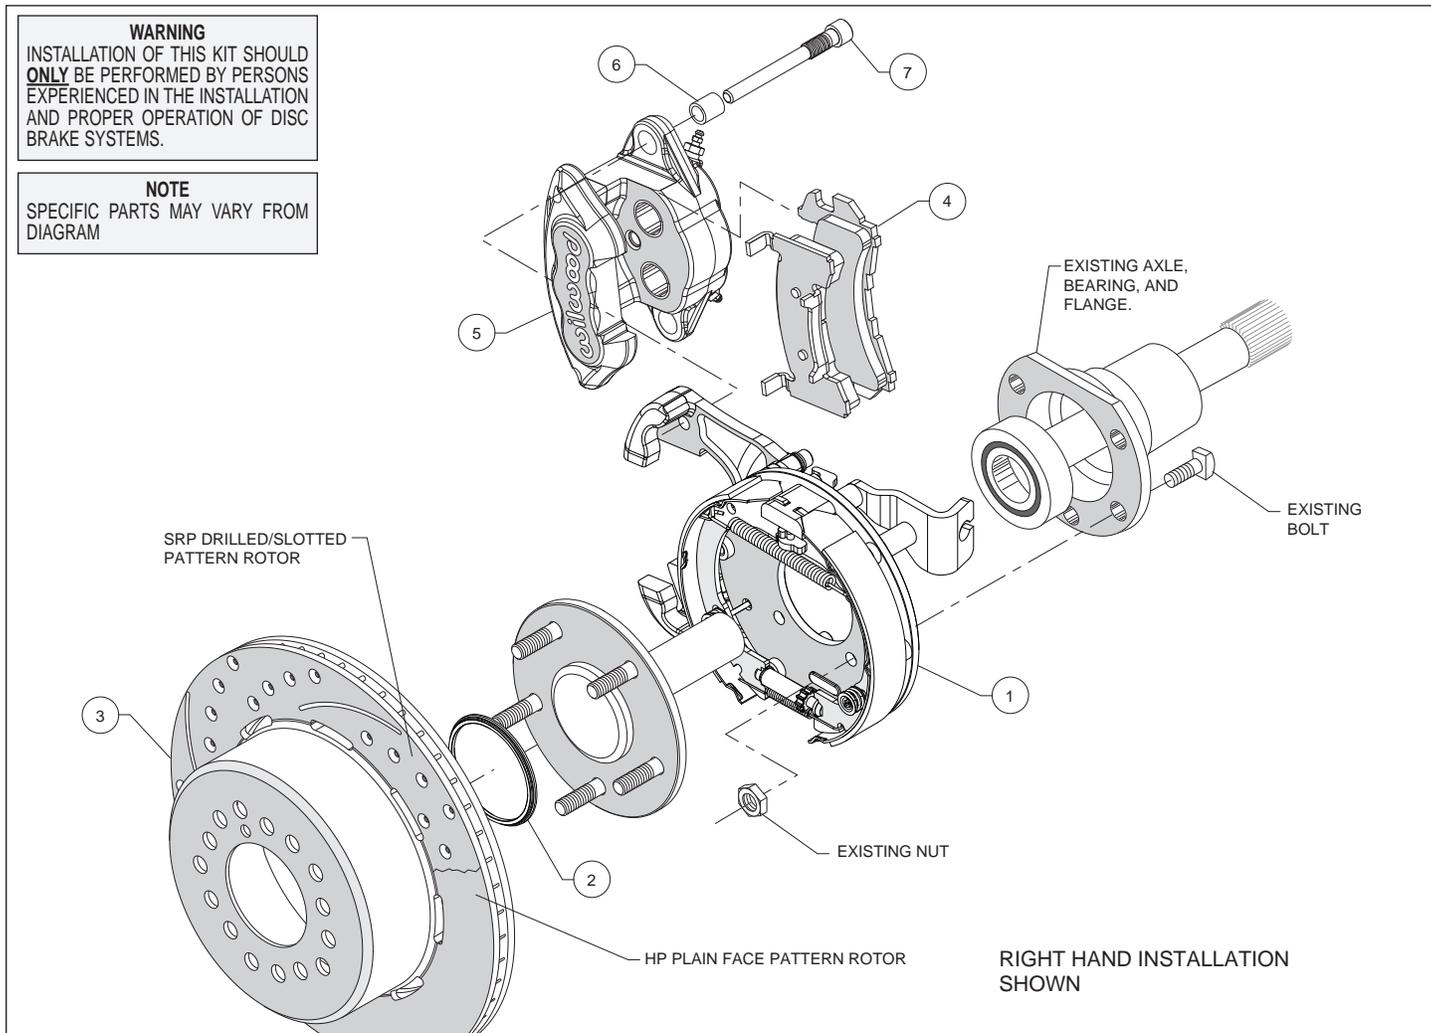

Figure 1. Typical Installation Configuration
Assembly Instructions (numbers in parenthesis refer to the parts list, and Figure 1 on the preceding pages): **CAUTION:** All mounting bolts must fully engage threaded holes.
- Orient the bracket assembly (1) as shown in Figure 1, and mount to the axle housing flange using the Original Equipment Manufacturer (OEM) bolts and nuts, Figure 1. Ensure that the bracket assembly backing plate fits flush against the axle housing flange. Apply red *Loctite*® 271 to the OEM bolt threads and torque to OEM specifications.
- Slide the rotor registration adapter (2) onto the axle register on the axle flange with the smaller O.D. facing toward the rotor/hat (3), Photo 1. Align the correct hole pattern in the rotor/hat with the stud pattern on the axle flange and slide into place, Figure 1 and Photo 2. **NOTE:** The rotor/hat must fit flush against the axle flange or excessive rotor run out may result. Install three lug nuts (finger tight) to keep the rotor/hat assembly in place while continuing with the installation. **NOTE:** Some OEM and after market axles come with stud sizes larger than 0.50" diameter. Verify stud size and have a qualified machine shop drill the bolt circle of the hat/rotor to the correct stud size, if necessary.
- Install the disc brake pads (4) into the caliper (5) with the friction material facing the rotor, as shown in Figure 1 and Photo 3.
- Install sleeves (6) onto slide pin bolts (7). Apply white lithium grease (available from your local auto parts store) to the slide pins/sleeves, as shown in Photo 4. **Do not apply to threads.** Mount the caliper (5) onto the mounting bracket (1) using slide pin bolts, as shown in Figure 1. Torque to 35 ft-lbs.